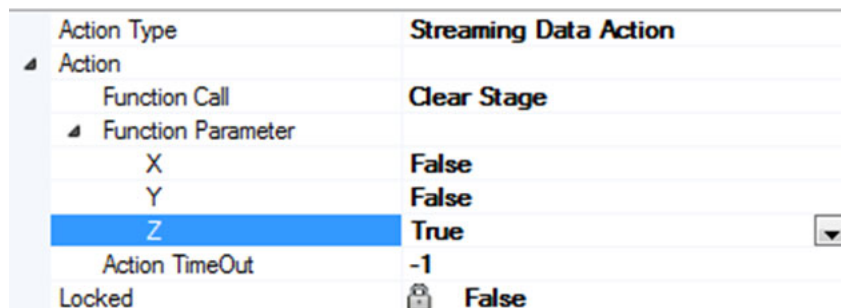

Figure 166: Clear Stage
1. Clears the count of the specified stage axes. Figure 166 (below) shows a configuration which will clear only Axis Z.